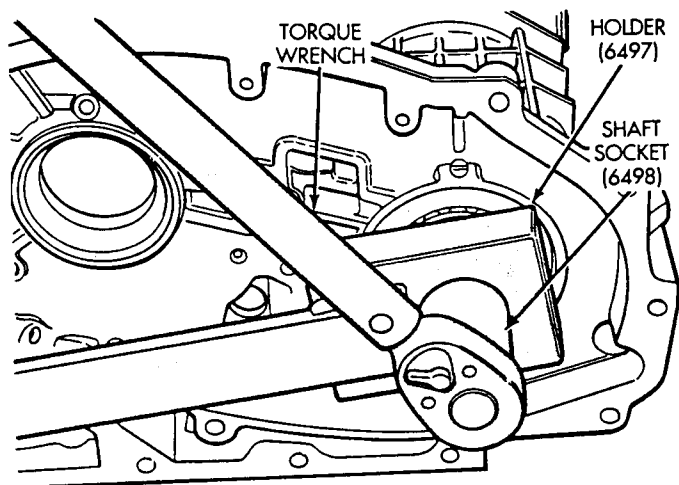

Fig. 34 Transfer Shaft Nut Installation
(39) Install a new transfer shaft nut (Fig. 34). Tighten nut to 271 N•m (200 ft. lbs.). Use special tools 6497 holder and 6498 shaft socket to tighten nut.